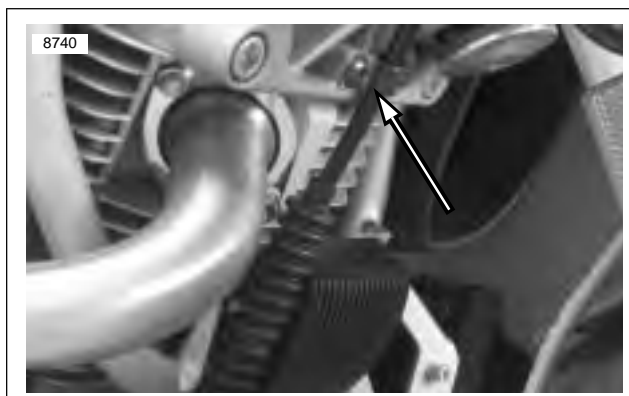

Figure 2-82. Clutch Cable P-clamp
2. See Figure 2-82. Remove clutch cable p-clamp.
4. Tighten front isolator bolt (6) to 49-51 **ft-lbs** (66-69 Nm).
5. See Figure 2-82. Install clutch cable p-clamp. Tighten fastener to 12-36 **in-lbs** (1-4 Nm).